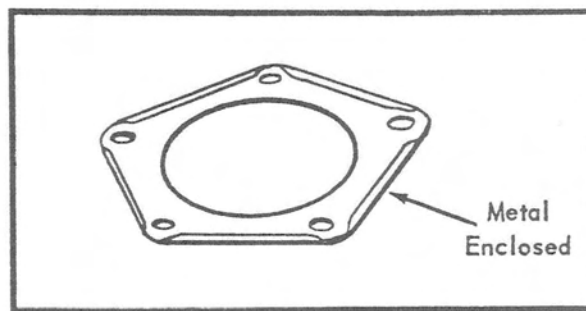

Figure 6. Metal Gasket
2. Metal cylinder head gasket (Figure 6) should be installed in all CCW engines with ENGINE Serial No. 3800000 and above.